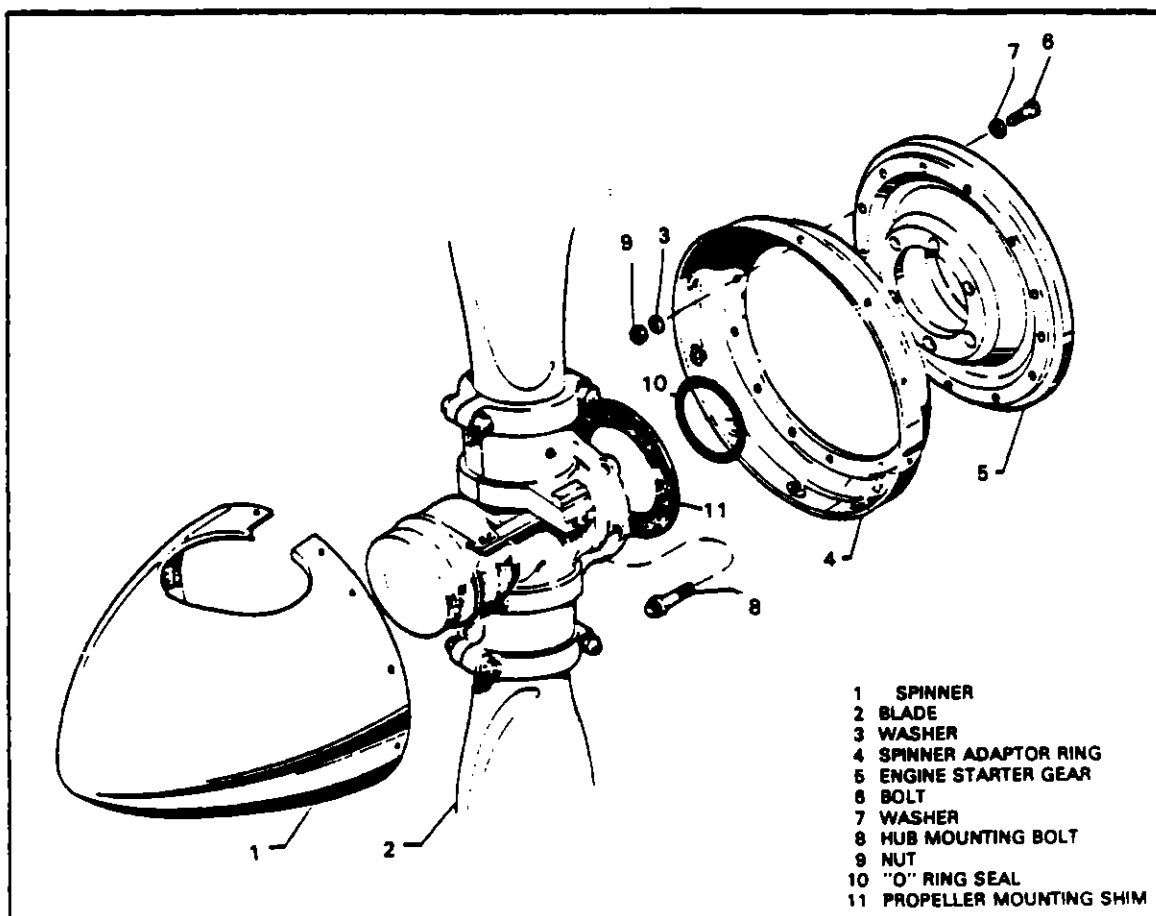

FIGURE 7-3. PROPELLER INSTALLATION (HARTZELL)
- g. Slide washers (9) on bolts (8) and tighten bolts uniformly all around to the torque limits of Table VII-1 and safety wire bolts
- h. Slide spinner (10) over the propeller, align screw holes with the nuts in the bulkhead, and install washers (12) and screws (11). Tighten to the torque given in Table VII-1
**7-12 Removal of Propeller. (Hartzell) (Refer to Figure 7-3)**
**7-14. Installation Of Propeller. (Hartzell) (Refer to Figure 7-3.)**
- a. Position the spinner bulkhead (4) against the starter ring gear support (5) so that one arrow lines up with the TC1, on the front face of the support
- b. Secure the spinner bulkhead to the starter ring gear support with 12 bolts (6), 12 nuts (9), and 24 washers (3) (one under the bolt head and one under each nut). Carefully tighten nuts uniformly to torque limits shown in Table VII-1.
- e. Install "O" ring (10) and shim (11) on engine shaft